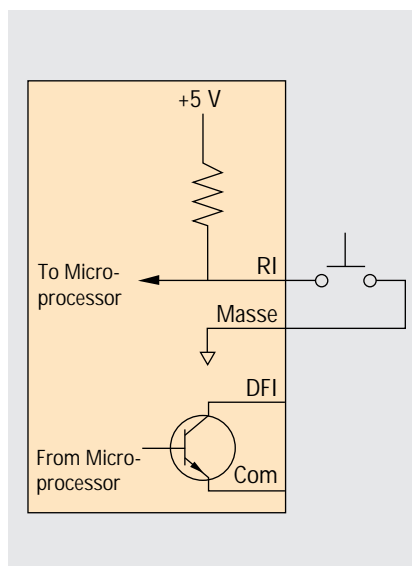

Figure 1. Remote inhibit and discrete fault indicator schematic.
Remote inhibit (RI) is an input to the power supply that disables the output when the RI terminal is pulled low (Figure 1). Shorting the normally open switch turns off the supply's output. You could also use a logic chip with an open collector transistor output instead of the switch. Figure 1 also shows the discrete fault indicator (DFI), which you can use to signal an operator or other components in the system whenever the power supply detects a user-defined fault.